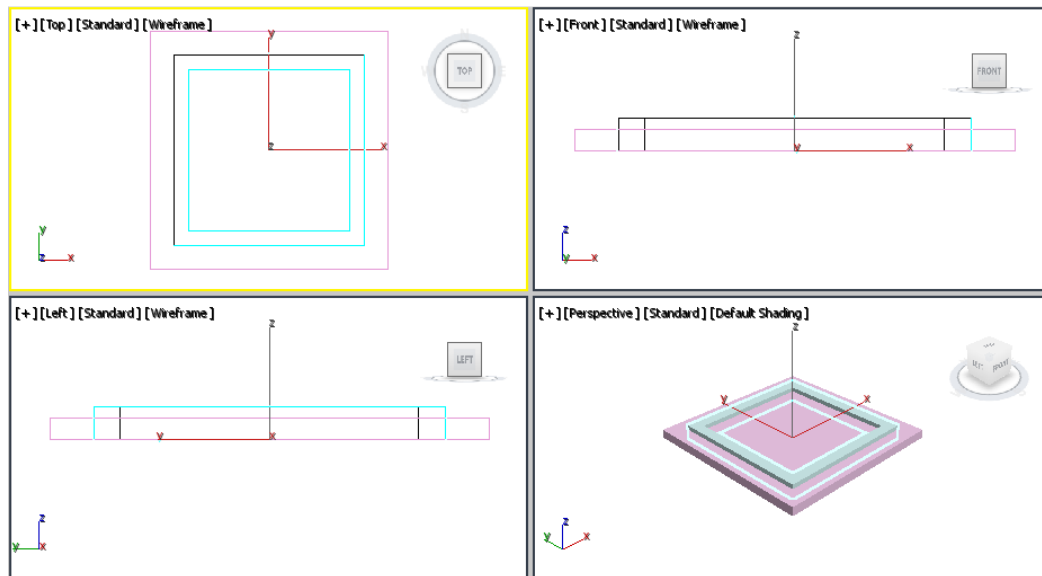

Figure 5-4 The *Frame* extruded by 15 units
7. In the **Parameters** rollout, set the value **15** in the **Amount** spinner; *Frame* is extruded by 15 units, as shown in Figure 5-4.